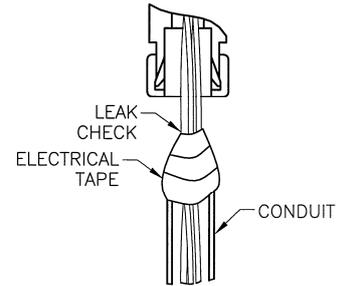

Figure 8
3. Carefully raise Electrical Fitting Kit to expose the motor leads and the top of the conduit. Take care not to damage motor leads on the DPS pressure lines. Seal off motor leads on the conduit with adhesive tape. Refer to Figure 8.